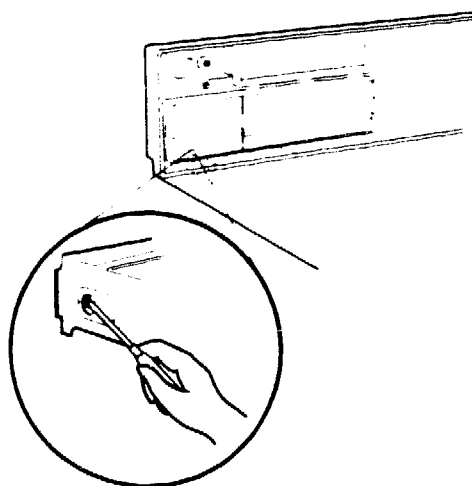

Figure 6.8: Plastic Panel Removal 1
2. To remove the plastic panel, put your finger through the hole on the side of the drive tower and push toward the cover. Once released, push the cover outwards. (See Figure 6-8, 6-9)
1. Remove the entire diskette drive cover by putting a handtool such as a screw driver through the hole in side of the drive tower and pushing the cover outwards. (See Figure 6.8, 6.9)